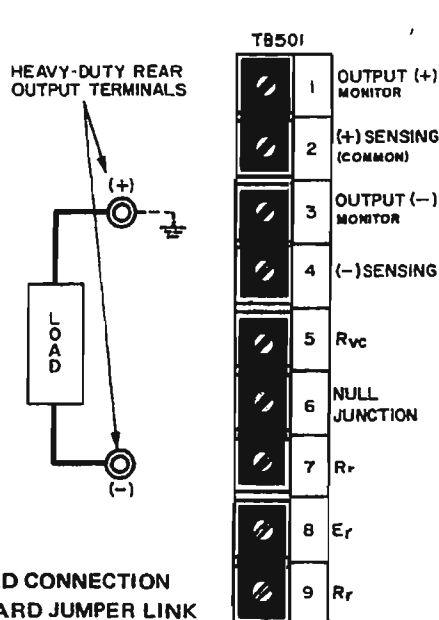
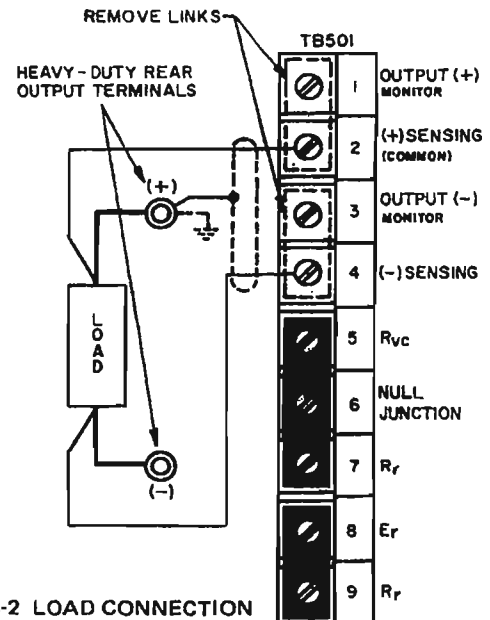

FIG.3-1 LOAD CONNECTION AND STANDARD JUMPER LINK CONNECTIONS WITHOUT ERROR SENSING
FIG. 3-2 LOAD CONNECTION USING REMOTE ERROR SENSING
3-2 **GENERAL.** The Power Supply is shipped from the factory with five (5) removable jumper links in place at the rear barrier strip (TB501) as shown in FIG. 3-1. THESE LINKS MUST BE IN PLACE AND SECURED TIGHTLY for standard local operation. Loose terminal links or wires at the barrier strip will cause malfunction of the power supply.
3-3 **LOAD CONNECTION.** The load may be connected in any of the two ways illustrated (FIG. 3-1,3-2). Load connecting wires should be as heavy as practicable, since load wire voltage drops will degrade regulation performance. Twisting of load wires will help to preserve the low output impedance of the power supply. To keep the DC voltage drop in the load connecting wires to a minimum, and to preserve the dynamic characteristics of the power supply (AC stability, output impedance and recovery time), load wires and error sensing leads should be as short and as large in diameter as practicable. Both lead pairs should preferably be tightly twisted. For minimum ripple and noise pick-up, the error sensing leads must be shielded. The shield, as well as one side of the output (preferably the positive), should be returned to the common ground point (Refer to FIG. 3-2).
3-5 Specified regulation performance DIRECTLY AT THE LOAD requires the use of remote error sensing. A twisted, shielded pair of wires from the sensing terminals directly to the load will compensate for load wire voltage drops up to 0.5 volt per wire (Refer to FIG. 3-2). Observe polarities: The positive sensing wire [from terminal (2)] goes to the positive load wire.